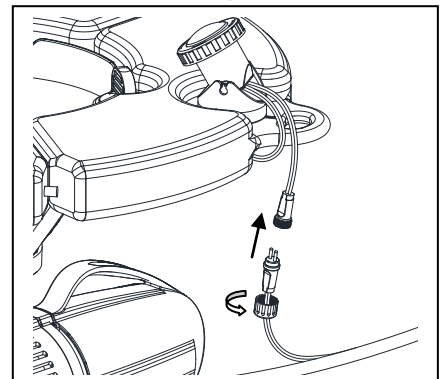

Fig. 3
3. Connect the light to the cord by pushing the plug into the light socket until it is firmly seated. Hand tighten the nut from the plug to the socket. Fig. 3